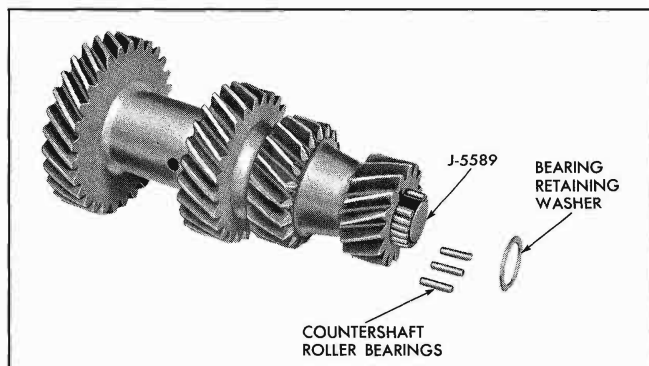

Fig. 7A-20 Installing Roller Bearings in Countergear
14. Install sleeve, hub, and synchronizing ring assembly on mainshaft, clutch sleeve shoulder to rear, and secure with clutch hub retaining snap ring (Fig. 7A-17).
2. At one end of countergear, install one row of 20 roller bearings, laying them over bearing loader J-5589 and seating them against bearing spacer (Fig. 7A-20).
8. Place smaller bronze thrust washer against rear of countergear, tangs facing gear and seated in grooves. Retain with grease (Fig. 7A-16).